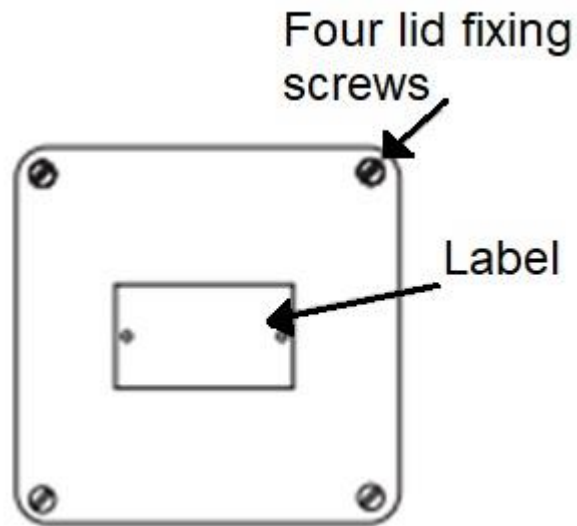

Figure M-3 – Junction Box lid
1. Remove and retain the four screws securing the cover of the ISH junction box as shown in figure M-3.